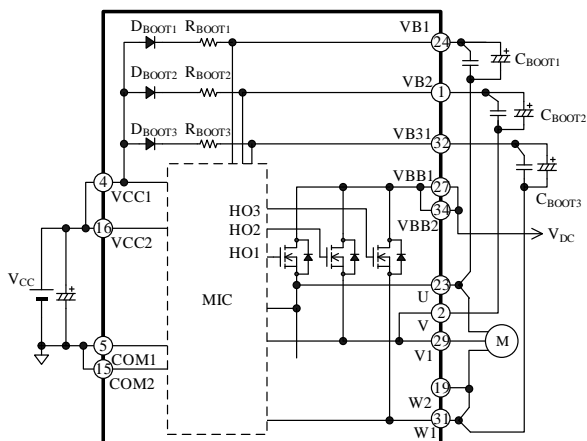

Figure 11-1. Bootstrap Circuit
As Figure 11-1 shows, a bootstrap diode,  $D_{BOOTx}$ , and a current-limiting resistor,  $R_{BOOTx}$ , are internally placed in series between the VCC1 and VBx pins. Time constant for the charging time of  $C_{BOOTx}$ ,  $\tau$ , can be computed by Equation (3):